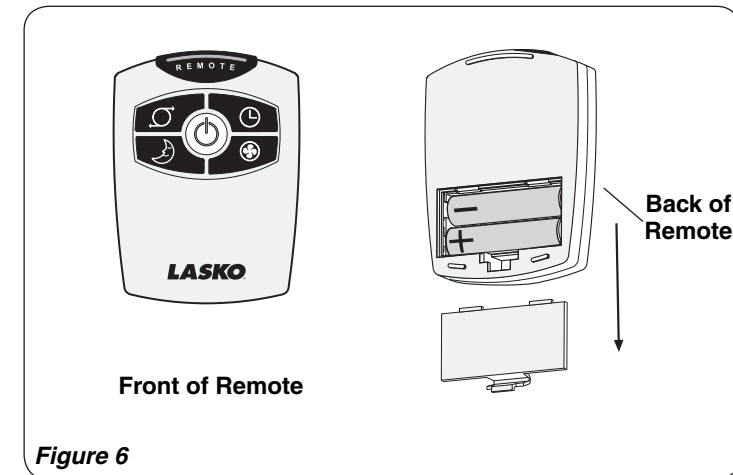

Figure 6
This Fan may be operated by the Manual Controls located on top of the unit (as shown in **Figure 5**) or by the Remote Control (shown in **Figure 6**).
REMOTE CONTROL (Figure 6)
1. Install batteries (not supplied) as shown in *Figure 6*. The battery is size “AAA”.